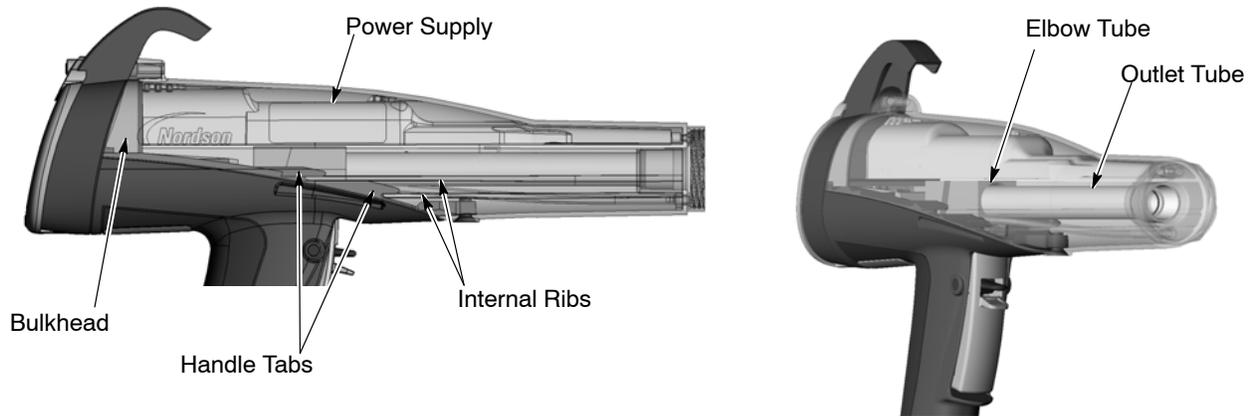

Figure 5-6 Gun Re-assembly
1. See Figure 5-6. Align the gun body with the handle and slide them together, engaging the internal ribs of the gun body with the handle tabs.